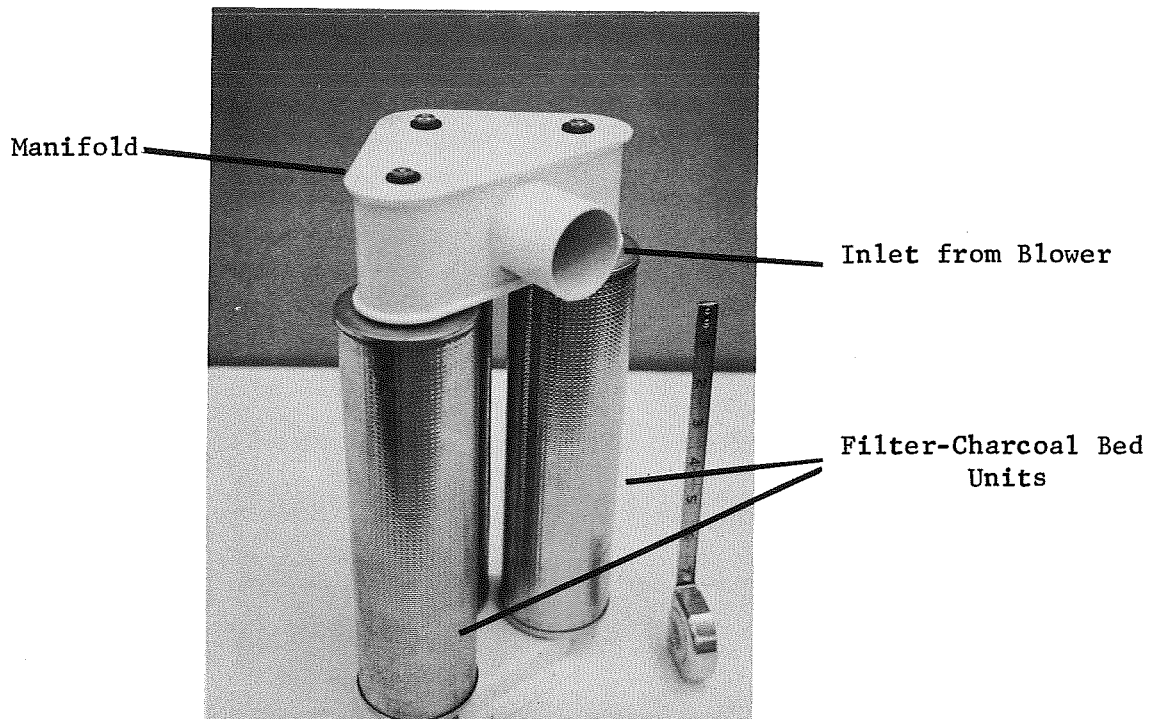

FIGURE 16. FILTER ASSEMBLY
4.8 Air Filter Assembly (See Figure 16)